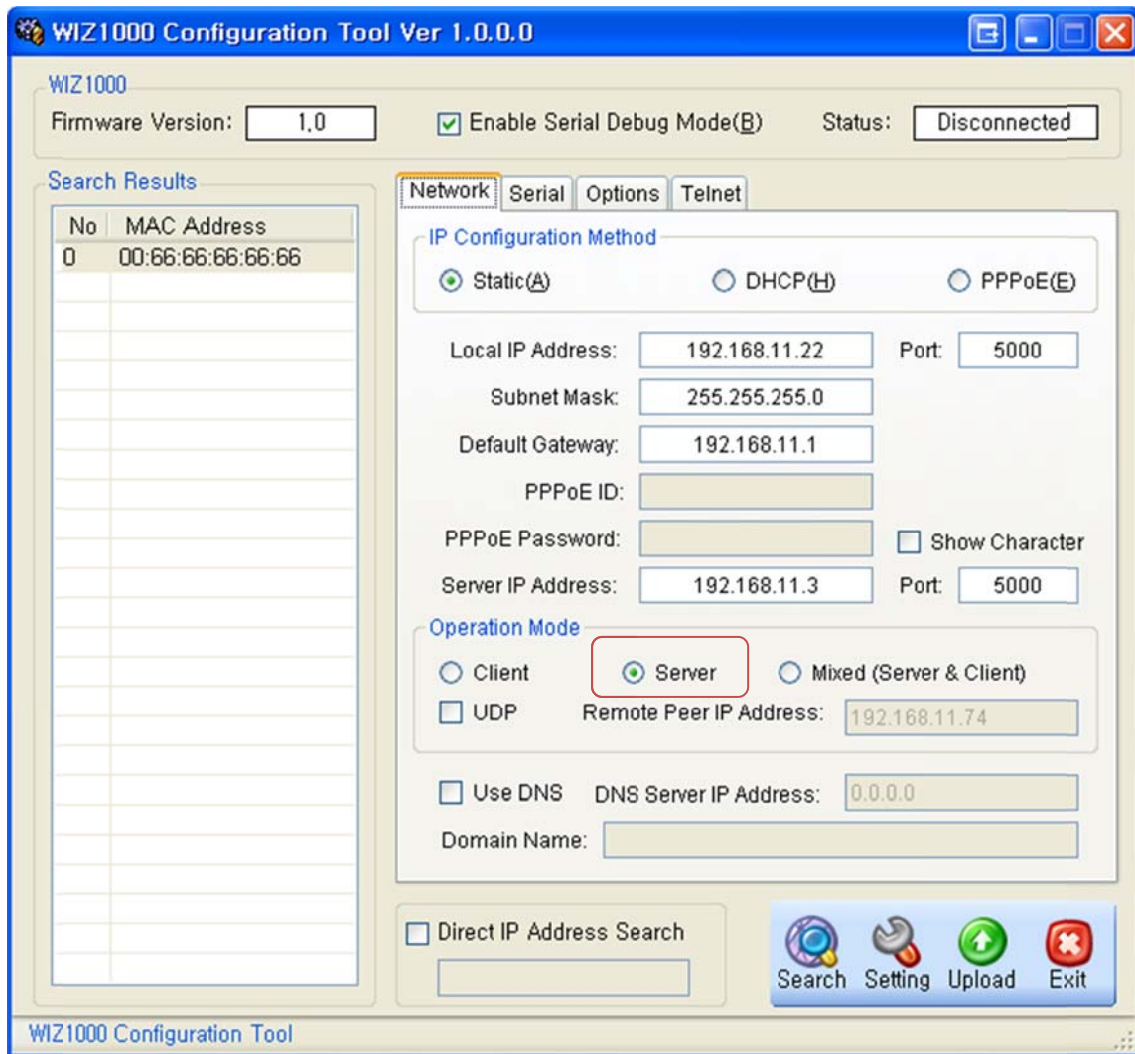

Figure 10. Option Mode for Password Configuration
- ③ Select a module shown in "Board list", and click "Upload" button.
- Before uploading through Ethernet, you should set the network information of WIZ1000 first by Configuration Tool program as shown above Fig 10. By using Ping test,**
- ④ When the window as shown below Figure is displayed, select file for upload and click “Open” button.